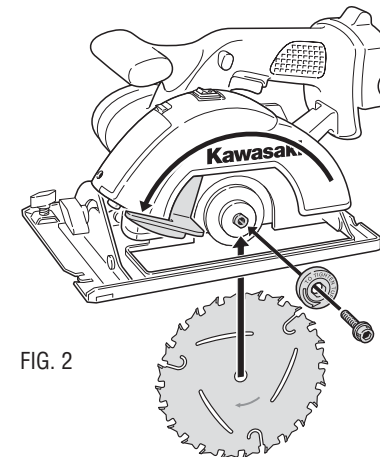

FIG. 2
3. Slip the blade into place (see Fig. 2).